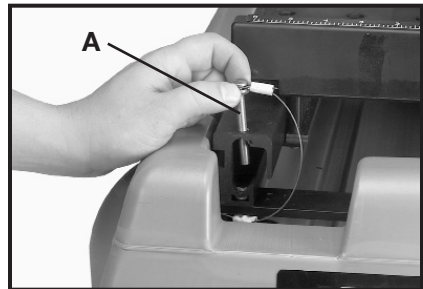

Fig. 23
The cutting tray can be detached for cleaning purposes by pulling the locking pin (A) Fig. 23 out, so that the tray can slide off the rail. Change water in water tray daily. Do not leave water in water tray overnight.